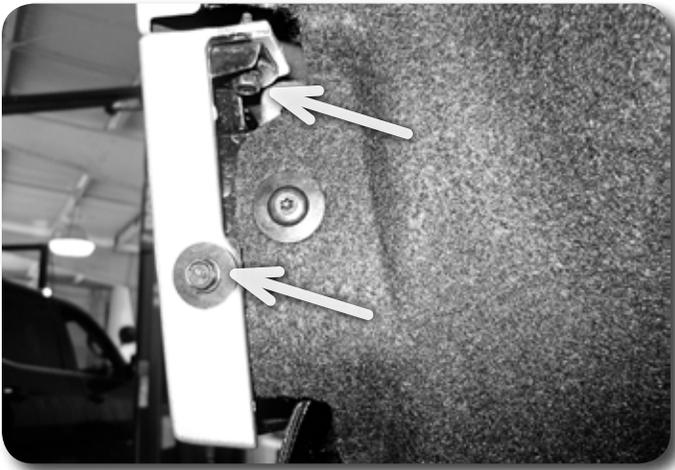

Figure 2
3. Using a 7mm socket, remove the two bolts attaching the lower grill valence to the inner fender well on both sides. Figure 2